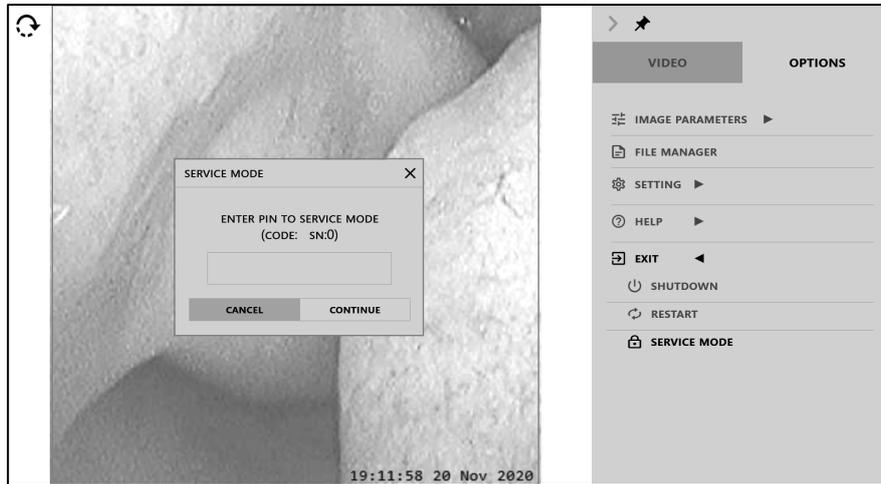

Figure 16 – Service Mode Screen
6.2. SERVICE MODE screen is restricted for use by 3NT technical support personnel only and requires an admin password (Figure 16).